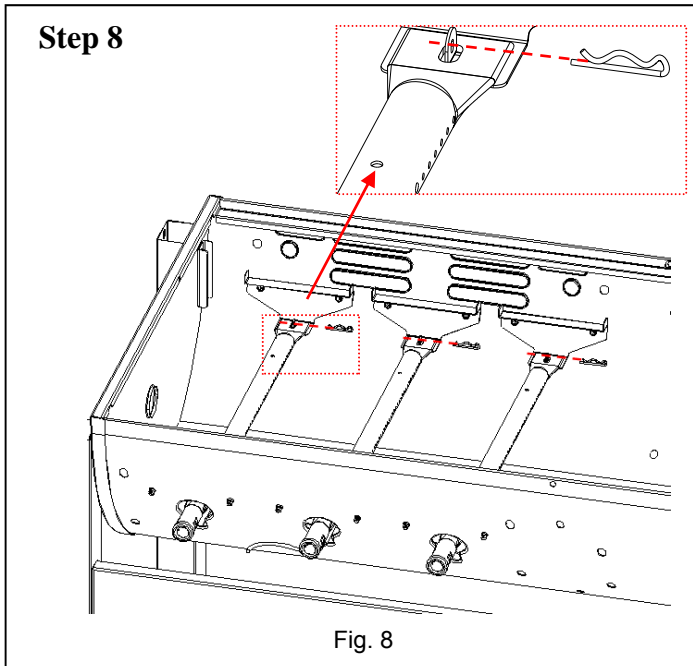

Fig. 8
- 2. The burners must be assembled with hole for the cross over tubes, facing up as shown in Fig.8.**
Then assemble the slot at the back of the Burner over the post in the Burner Brackets. Insert (1) R clip through the hole in each post as shown as Fig. 8.